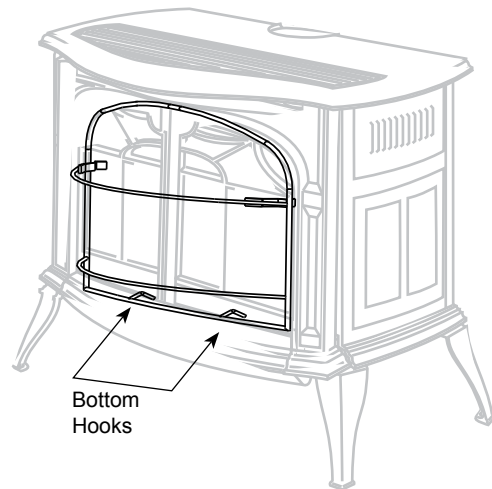

Fig. 54 Install safety barrier screen.
2. Place the two bottom hooks over the bottom edge of the stove opening Figure 54